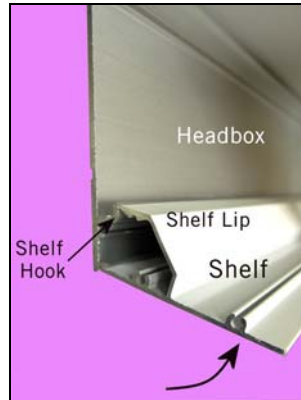

Figure 27 Shelf Going onto Headbox
- Place the lower front edge of the shelf into the lip of the headbox and align the shelf so it is flush with the end of the headbox at the idler end (Figure 27).